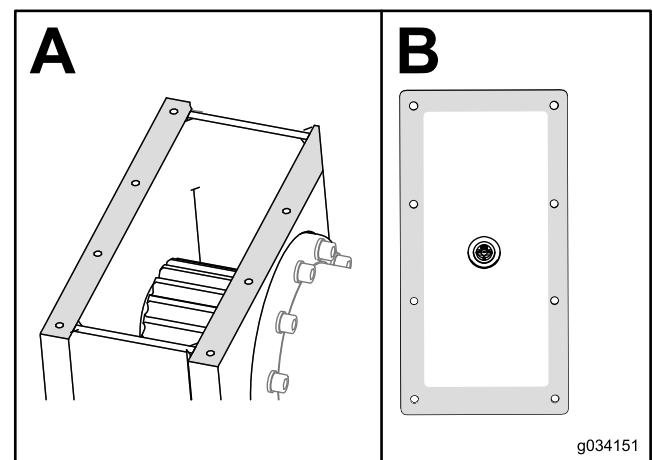

Figure 136
7. Clean the sealant off of the gearbox box and cover (Figure 136).
8. Put new automotive-grade RTV sealant around the edge of the cover (Box B of Figure 136).